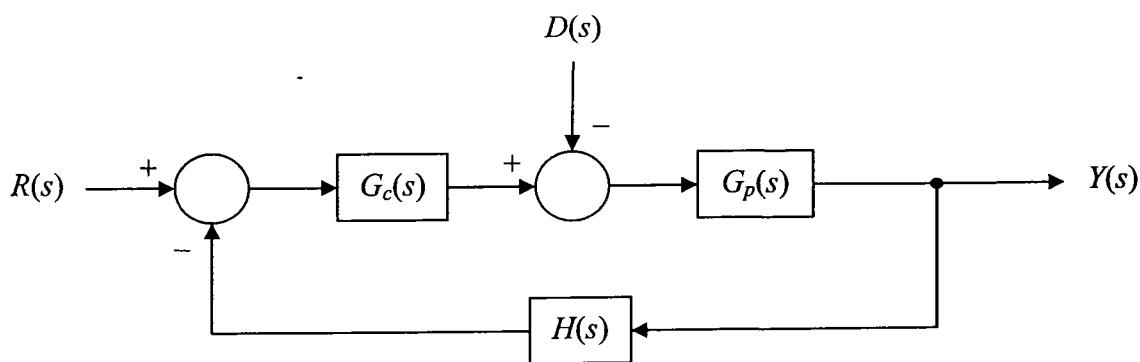

Figure Q2
- Q2.** A control system for accurately controlling the position of a CNC machining center has a block diagram shown in Figure Q2. The transfer function of the process, controller and feedback are $G_p(s) = \frac{4}{s(s+a)}$, $G_c(s) = K_P + \frac{K_I}{s} + K_D s$ and $H(s) = 2$ respectively.